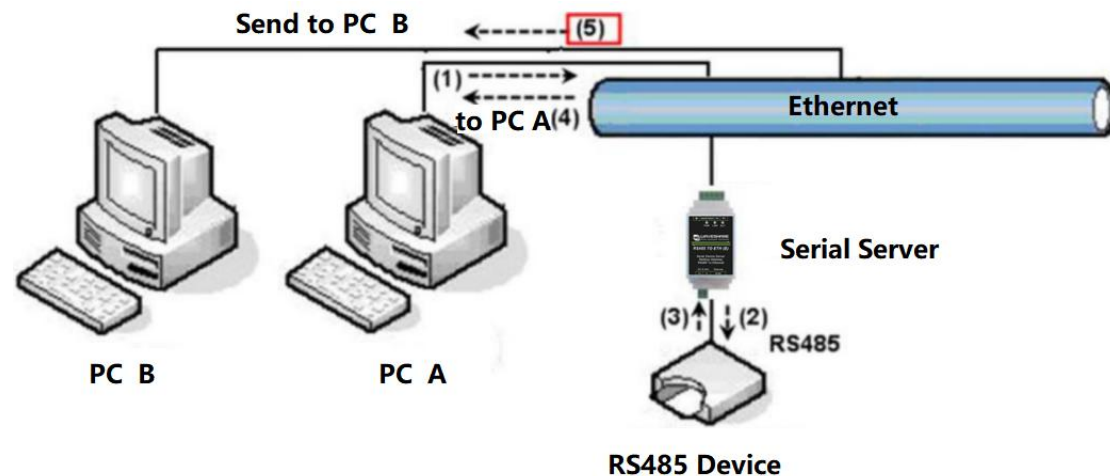

Figure 28 Multi-host function demonstration
As shown in Figure 28, in the normal mode, when two hosts: host A and host B are connected to the serial server at the same time, host A sends (1) command, RS485 device receives (2) command, RS485 device returns (3) Command, but the serial port server will send (4) to host A and (5) to host B at the same time. Since the host B did not send the query, but it also received the response command (5), the host B may generate a communication abnormal error. In the multi-host mode, there will only be instructions (4) but not instructions (5), because the serial server will automatically remember the host that needs to be returned, and only return the instructions to the most recent communication host, and the query of host A will only reply to A, host B queries and replies to host B.
As shown in Figure 28, if the serial port device (RTU device) is used as the master station and the network port device (Modbus TCP device) is used as the slave station, and there are multiple network port slave devices at the same time. At this time, you can use the method described in 5.2.2 Client Connecting Multiple Servers to let the serial port server as a client connect to these multiple network port devices at the same time.